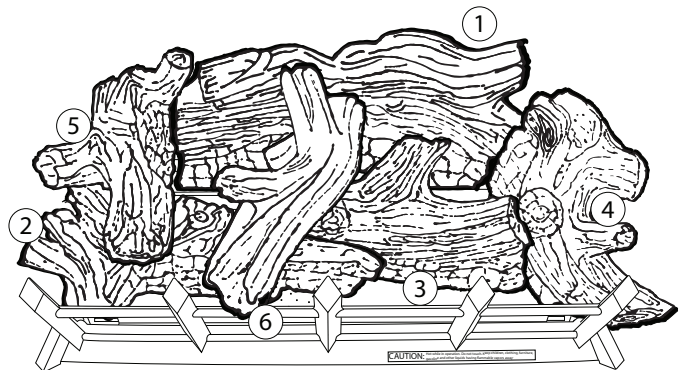

Figure 48
6. Place the top center log (#6) to the right of the pilot orifice allowing the log to rest on top of the front right log (#3) and the front left log (#2). (See Figure 48.)